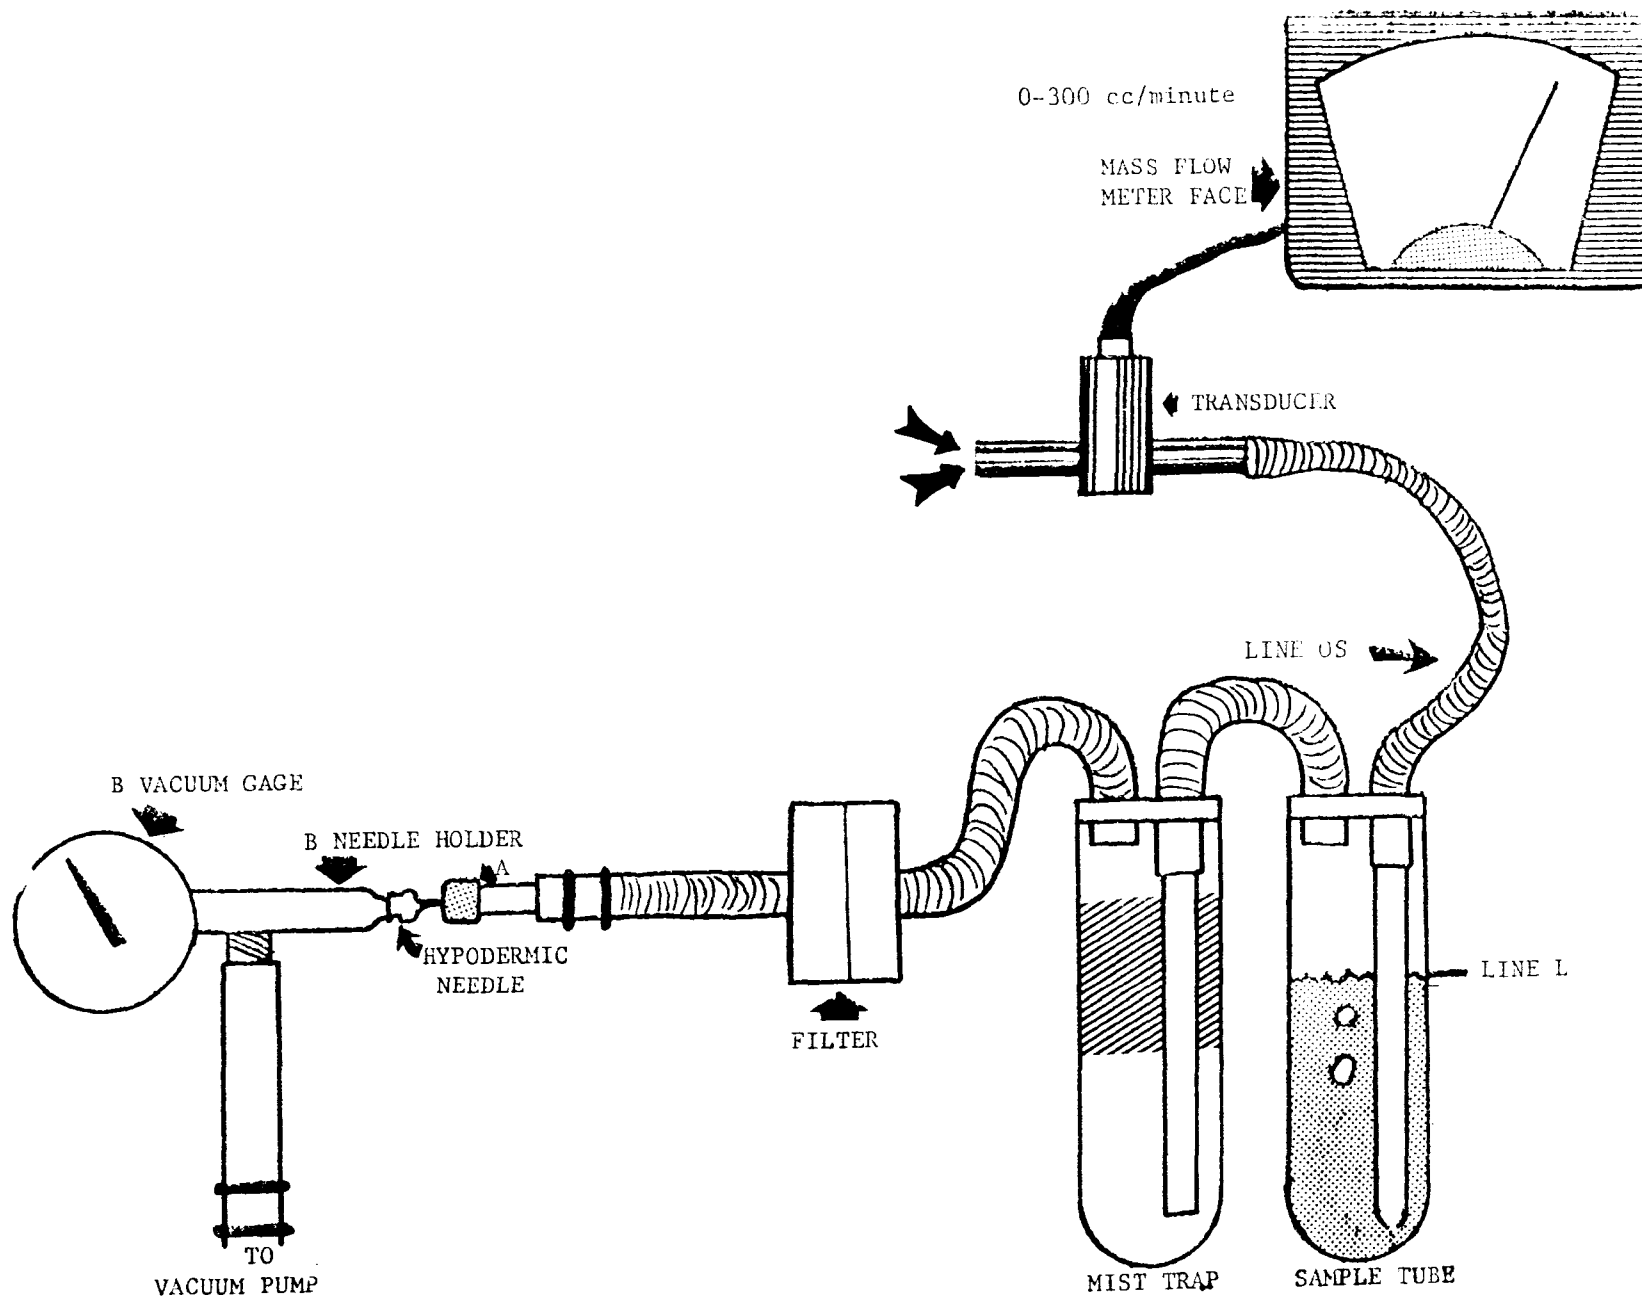

Figure 32
- Step #1:** Assemble the equipment as shown in Figure 32.
- Step #8:** Insert a needle through septum A as shown in Figure 32. The needle should be inserted in the septum center perpendicular to the plane of the face of the septum.
- Step #10:** Slide needle holder B snugly into the recess at the base of the needle (See Figure 32). Check for bubbles in the sample tube.